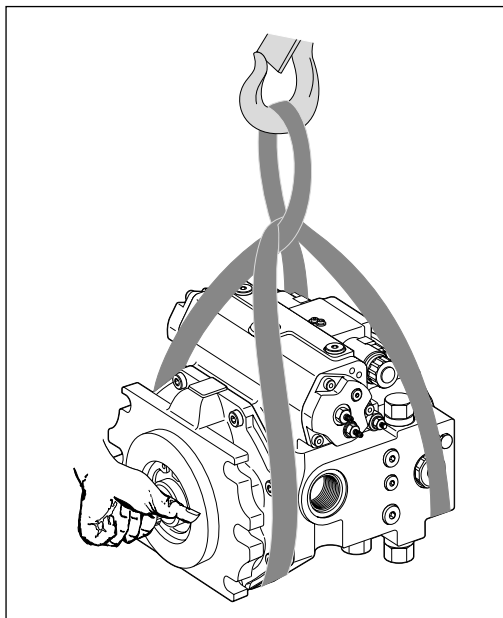

Fig. 3: Transport with lifting strap
- ▶ Place the lifting strap around the axial piston unit in such a way that it neither passes over the attachment parts (e.g. valves) nor that the axial piston unit is hung from attachment parts (see Fig. 3 for example).